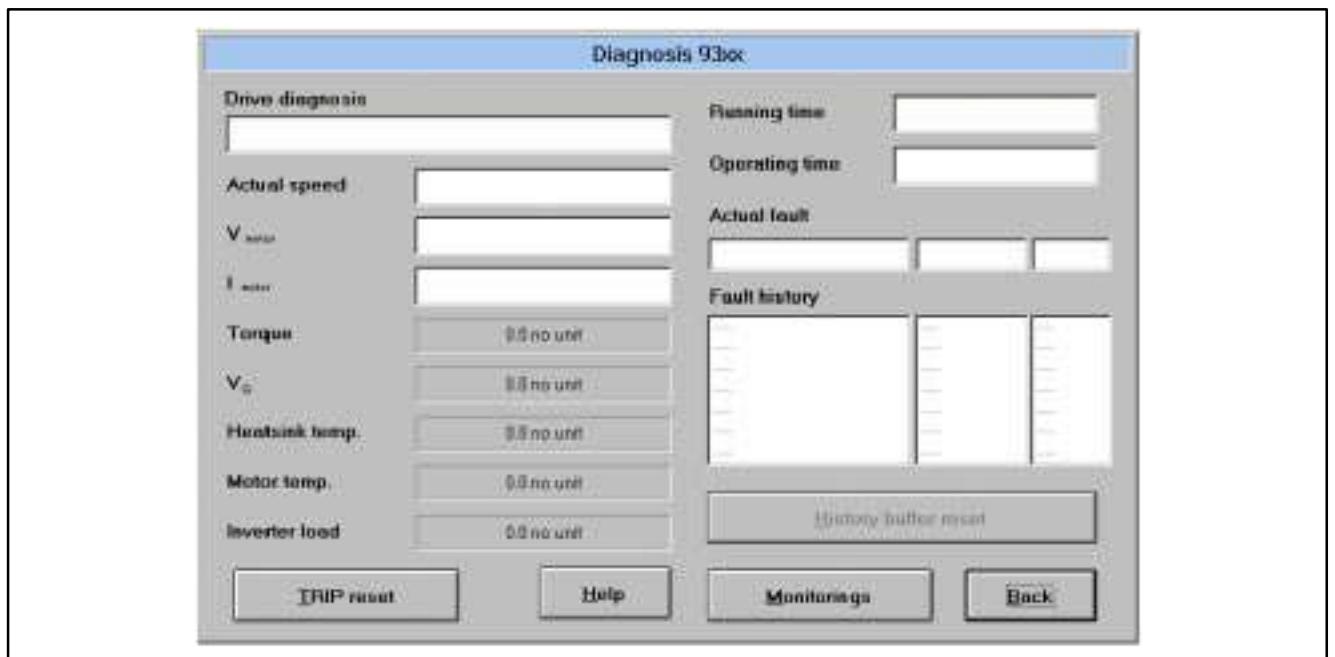

Fig. 8-1 Dialog box "Diagnostics 9300"
- Operational faults are indicated immediately via the display elements or the status information (Fig. 8-1, chapter "Troubleshooting").